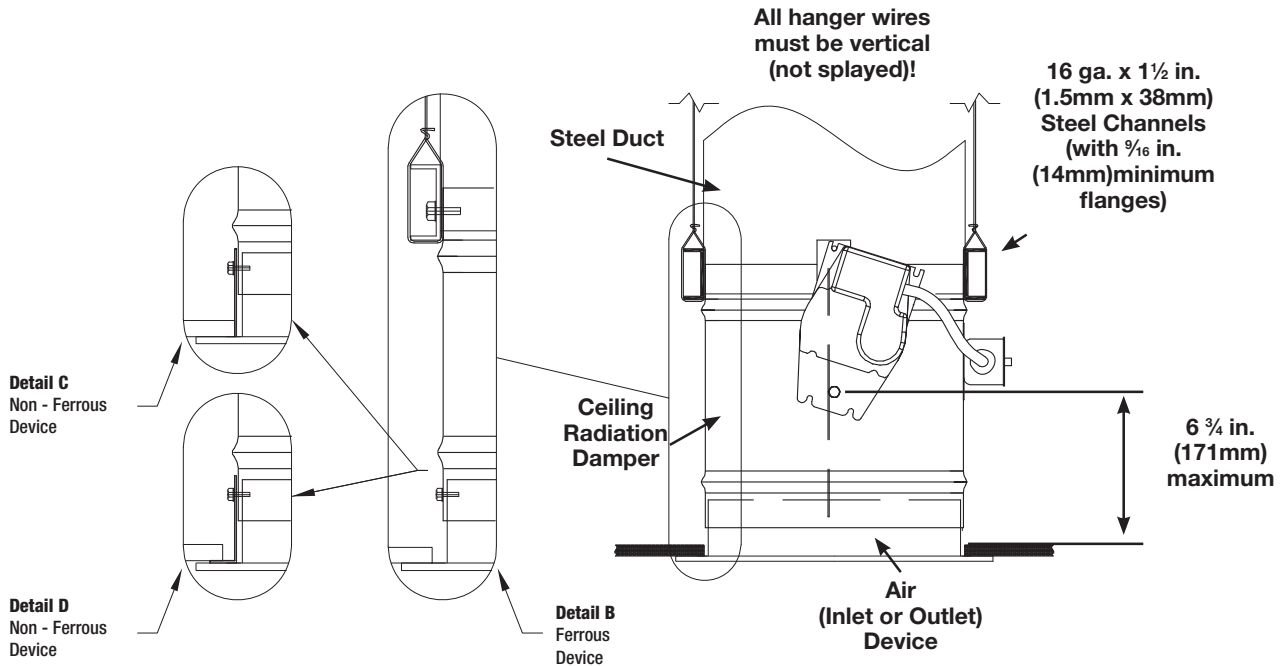

Figure 5
Ceiling radiation dampers and air inlet or outlet devices may also be supported directly from the structure above using one or more of the methods described in **Figures 5, 6, 7, or 8**. When channels are to be used as support, they must be 16 ga. x 1 1/2 in. (1.5mm x 38mm) steel channels with 1/16 in. (14mm) minimum flanges (2 required per damper on opposite sides). Air device flange must overlap the ceiling membrane by a minimum of one inch (25mm).
Ceiling radiation damper may be connected directly to the air device neck and then the duct drop connected to the damper (see **Figure 5, Detail B**).
(see General Information, Ceiling Penetration) should be equal to the outside of the duct drop (see **Figure 5, Detail C**). Models CRD-501 may be installed as shown in **Figure 5**.
2. A steel angle should be attached to the bottom of the ceiling radiation damper and span the gap from the ceiling radiation damper to the bottom of the ceiling membrane. The steel angle should overlap the ceiling membrane (see **Figure 5, Detail D**).
Model CRD-501 may be installed as shown in **Figure 5**.